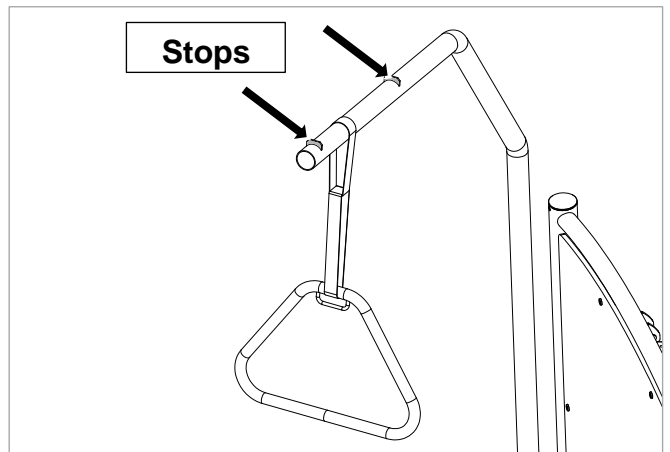

Figure 6.8
7. Ensure that the Fixing Belt is located between the two stops. This ensures that the Handle will not slip off the Lifting Pole during use (see Figure 6.8).